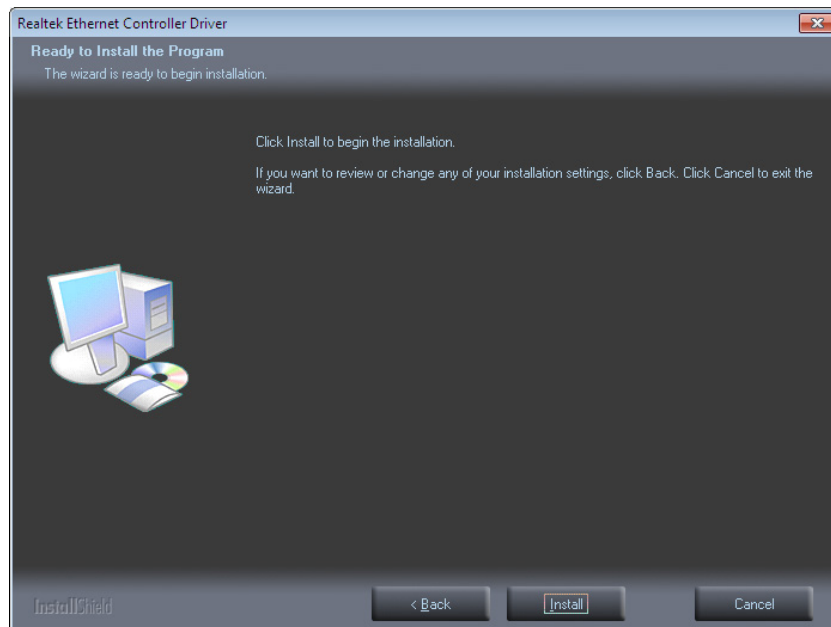

Figure 6-14: LAN Driver Installation
Step 5: The **Ready to Install the Program** screen in **Figure 6-14** appears. Click **Install** to proceed with the installation.